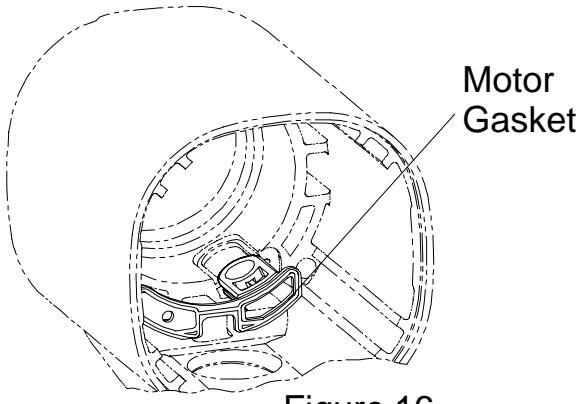

Figure 16
1. Install the Motor Gasket in the Housing making sure that the grooves in the tab of the Motor Gasket fit around ridge in the Housing. See Figure 16.